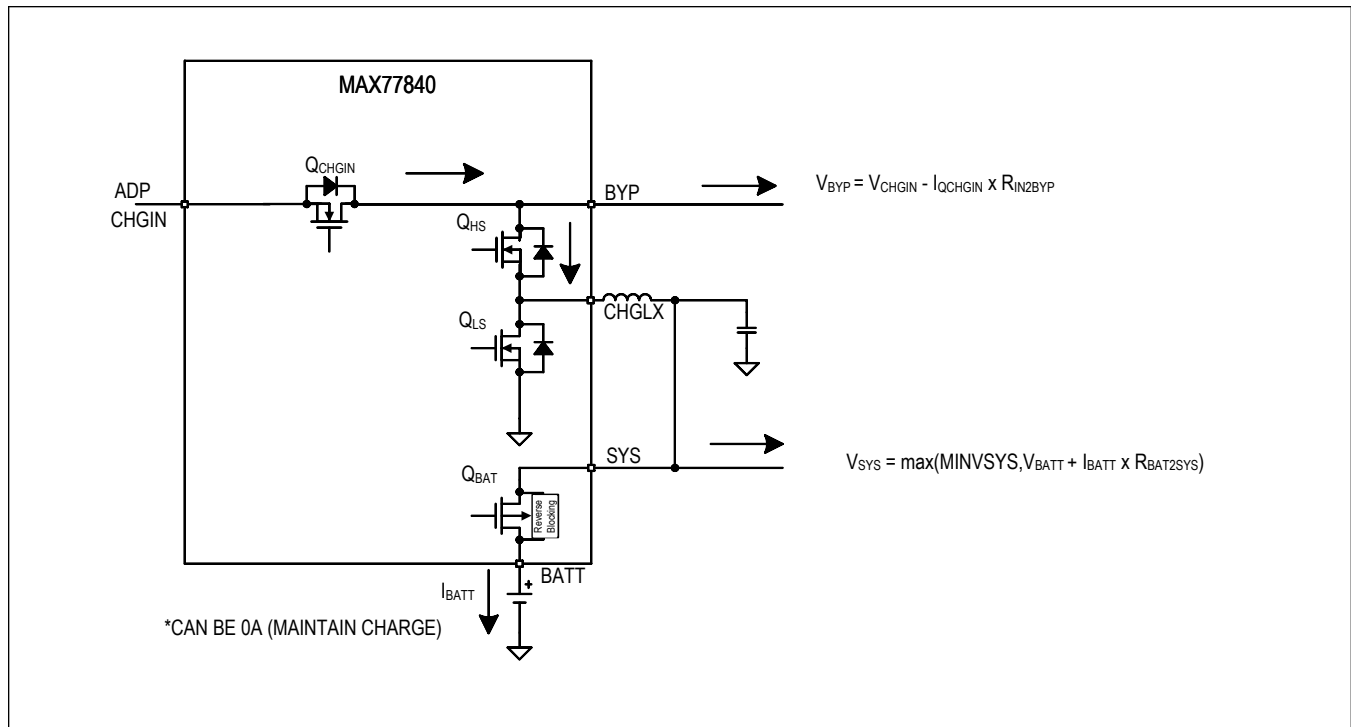

Figure 8. Charge-Buck
- 6. CHARGE-BUCK, MODE = 0x0D: The adapter is detected within the input voltage operating range ( $Q_{CHGIN} = \text{on}$ ). Battery is connected in charge mode ( $Q_{BAT} = \text{on}$ ) and charger is operating in buck mode, see Figure 8.